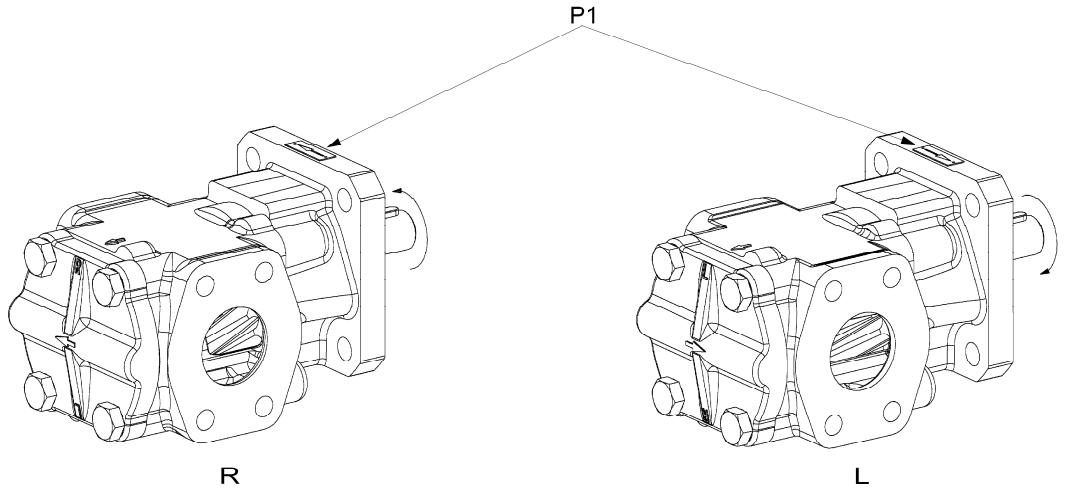

Figure 6: Direction of rotation
3. Check that the fan impeller of the motor rotates in the direction of the rotation arrow on the gear pump (see Figure 6).